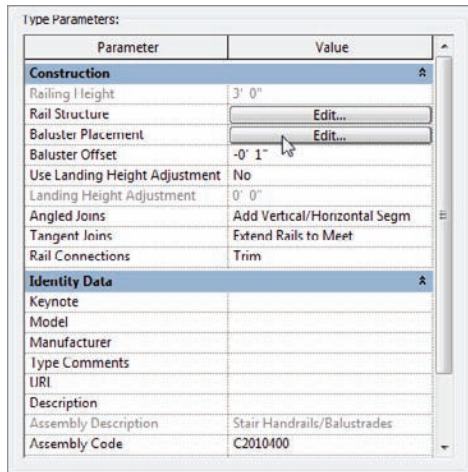

FIGURE 10.17 Click Edit next to Baluster Placement
6. In the Baluster Placement row, click the Edit button, as shown in Figure 10.17.